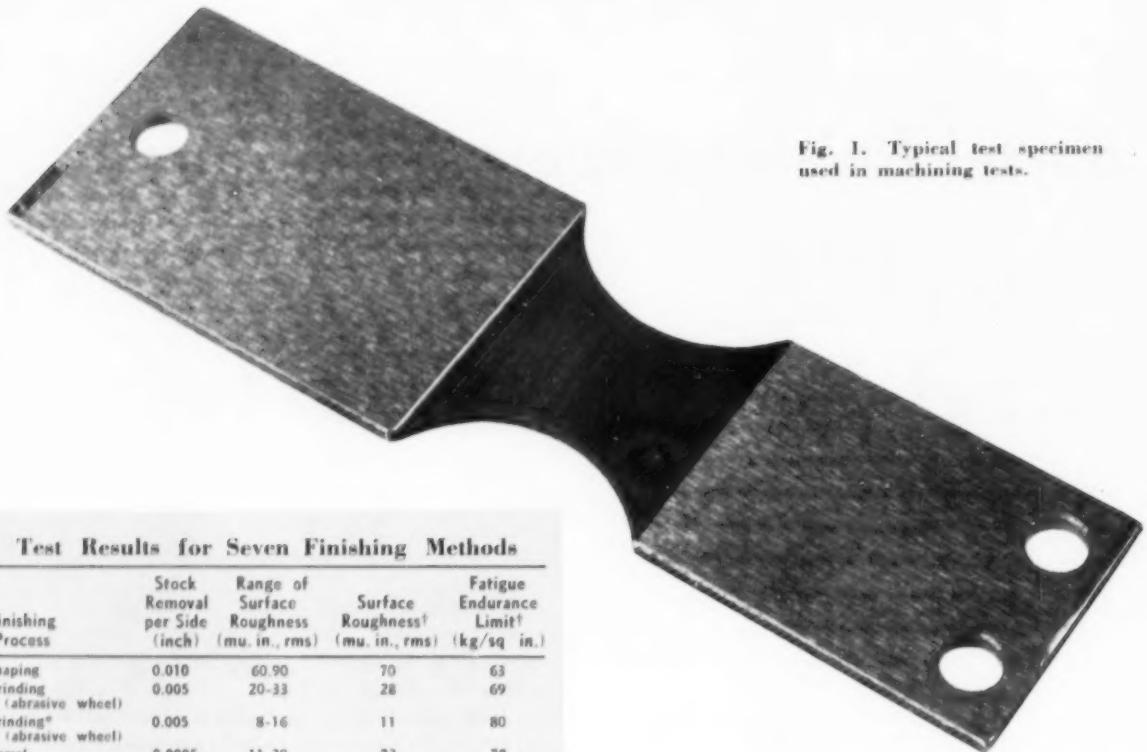

Fig. 1. Typical test specimen used in machining tests.
**Testing Procedures:** Strips of AISI 4130 steel, 0.082 inch thick, hardened to  $35 R_C$ , served as test specimens. These strips were machined to the usual sheet fatigue specimen configuration, Fig. 1. All specimens were initially machined on a shaper to a finish of 60-80 microinches to duplicate the type of finish obtained in production turning. Sufficient stock was left to permit final processing to the desired thickness. The finishing processes tested were conventional grinding, barrel finishing, hand polishing, electrolytic grinding and electrodischarge machining. Eight test specimens were produced by each method. A set of specimens finished on the shaper served as controls.